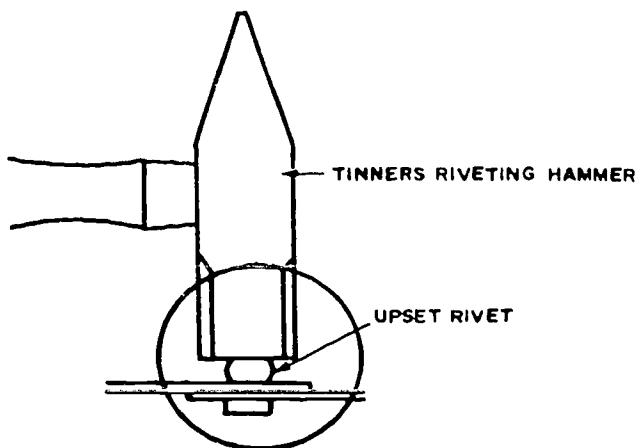
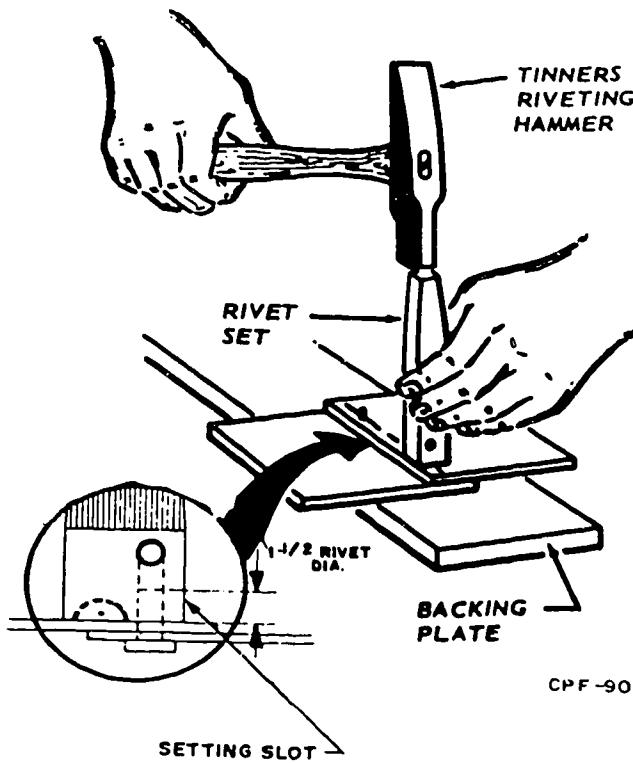

Figure 2-20. Upsetting rivets.
Figure 2-19. Setting rivets.
Rivets are usually installed by placing the manufactured head against a solid surface, such as a backing plate, and following the steps shown in figures 2-19, 2-20, and 2-21. This procedure is used when setting rivets with a hand riveting set. The steps illustrated are necessary to insure a strong rivet with a proper head and to prevent the joint from being distorted.
If the setting step, illustrated in figure 2-19, is not performed correctly, the sheets may not seal tightly against each other and may cause the rivet to swell between the sheets during the upsetting step, as shown in figure 2-20. A second problem often appears when the rivet head is not seated up tight against the metal. This causes the rivet to swell below the metal as shown in figure 2-22. Either problem makes the rivet too short to form a proper head, causes the metal around the hole to dimple (bulge), and fails to form a strong joint.
Upsetting the rivet, as shown in figure 2-20, is also very important, since it is the beginning of the heading process. If the rivet is struck too hard, the rivet shank will be flattened too much to form a good head during the heading step.
**Drawing Rivets.** Drawing rivets is a process where drilling or punching holes is not necessary. This procedure is used with light gage sheet metal, such as 30, 28, and 26 gage. A solid rivet is placed head down on a bench plate or stake with the joint placed over the rivet. The joint is tapped lightly with a mallet to make an impression of the rivet shank. The set, shown in figure 2-19, is placed over the impression in the joint, and the set is tapped with a riveting hammer to draw the rivet through the light sheet metal. This method is useful when manufacturing funnels and cylinders and joining light sheets.